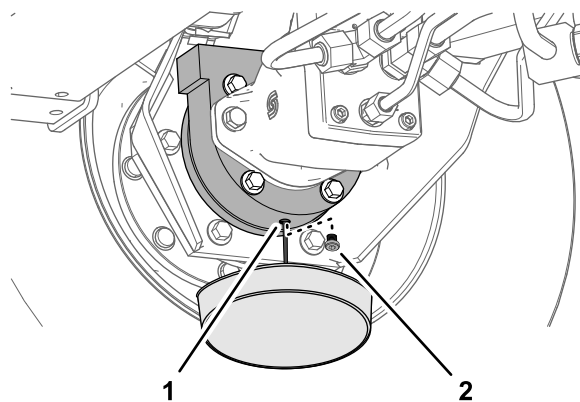

Figure 75
6. Place a drain pan under the brake housing, remove the drain plug, and allow the oil to fully drain (Figure 75).